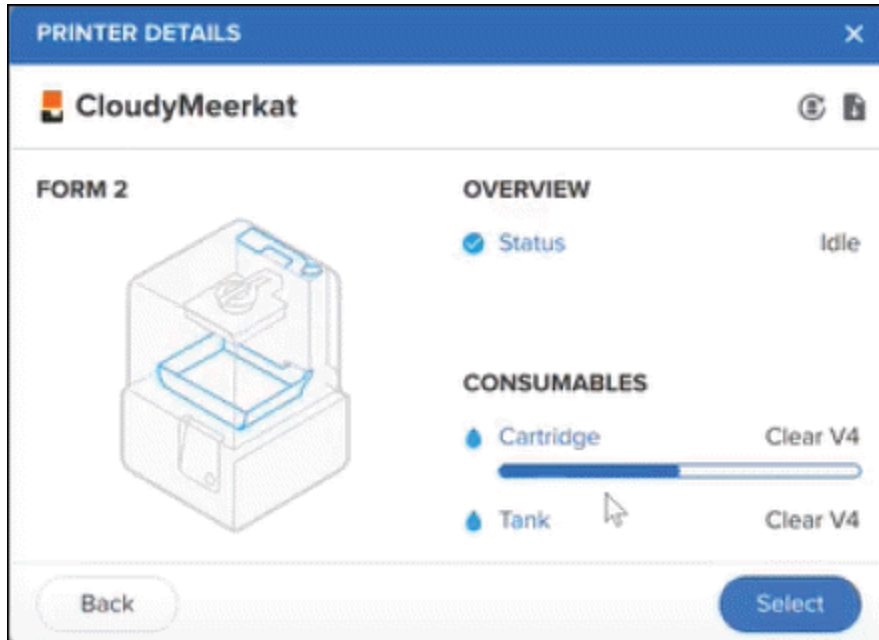

Figure-66. PRINTER DETAILS dialog box
- Select desired printer from the list and click on the **Select** button from the **PRINTER DETAILS** dialog box displayed; refer to Figure-66.